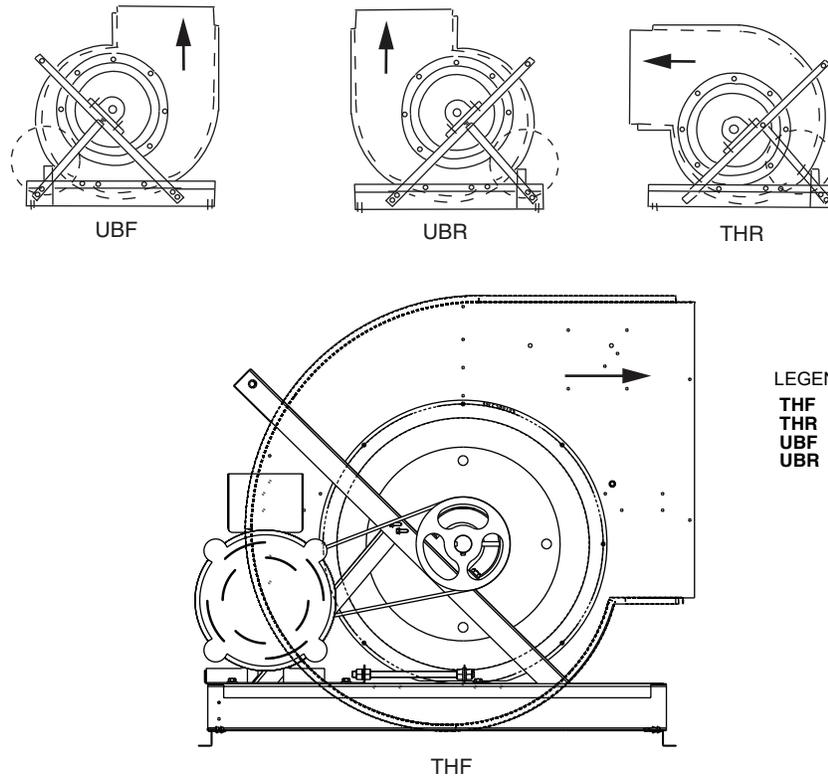

Fig. 77 — Fan Discharge Positions, Sizes 21 and 25
- Sizes 21 and 25 — See Fig. 77. The “A” frame support must be removed. To change from upblast to horizontal discharge or from horizontal to upblast discharge, the bearings must be relocated to keep the wheel centered in the housing. To change from upblast front (UBF) to upblast rear (UBR) or from top horizontal front (THF) to top horizontal rear (THR) or vice versa, turn the entire fan housing 180 degrees about its base.